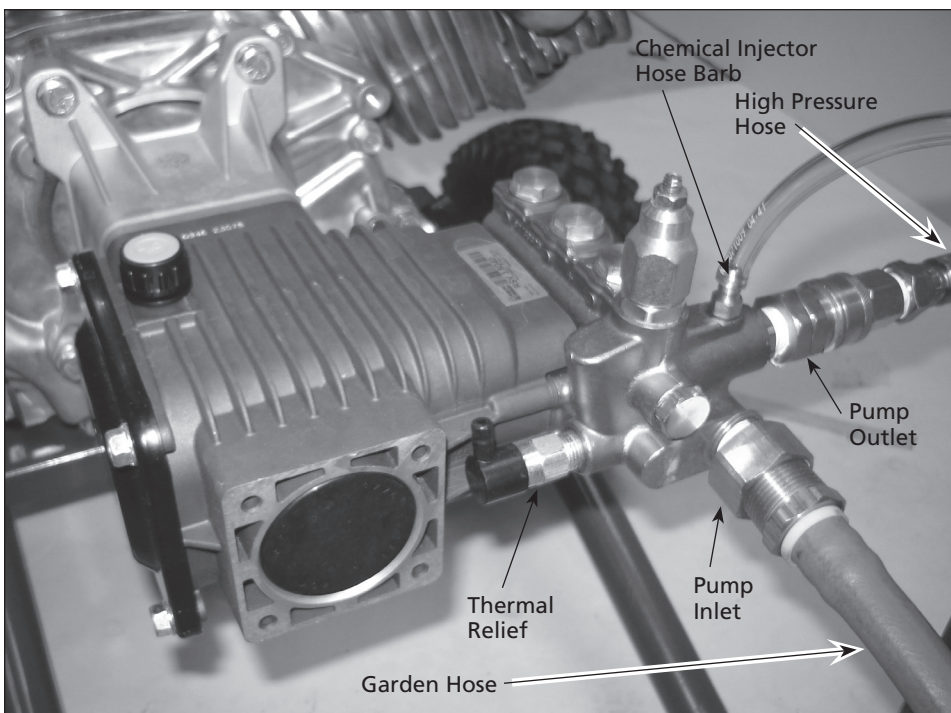

Figure 4 - Pump hook up
4. Secure garden hose (not included) to the inlet connection on pump (See Figure 4).
5. Connect the high pressure hose to the pump outlet (See Figures 4 and 5).